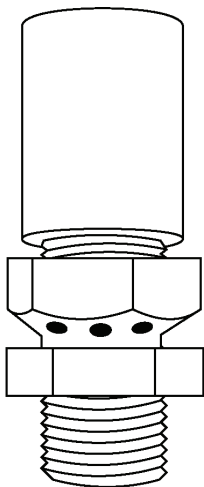

Figure 10.1
- » In some areas of the country, spiders or insects have been known to build nests and/or lay eggs in the venturi holes of the air-mixer for LP units. This can cause fuel to fill the fire feature cavity and result in personal injury or property damage. Periodic inspection by a qualified service technician of the air-mixer is required to ensure your fire feature performs properly, See Figure 10.1.